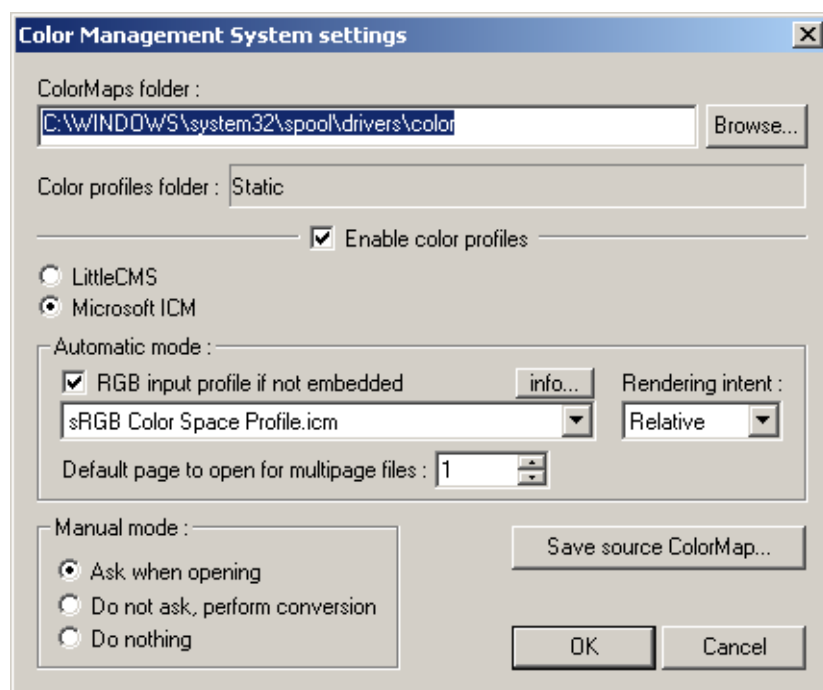

Fig.99 - Color Management System settings dialog
From the main menu bar, to let the **Color Management System settings** window appear (fig. 99).
In the **Manual mode** frame (**ColorMap CMS settings** window, see fig. 99 on page 102), one can choose in which way the system converts the newly opened files. the following options are available:
- 1) Open the **Color Management System settings** window (fig. 99 on page 102) by selecting: